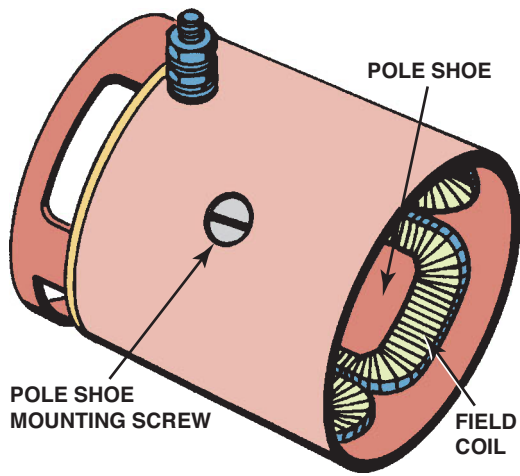

FIGURE 17-15 Pole shoes and field windings installed in the housing.
- **Field coils.** The steel housing of the starter motor contains permanent magnets or four electromagnets that are connected directly to the positive post of the battery to provide a strong magnetic field inside the starter. The four electromagnets use heavy copper or aluminum wire wrapped around a soft-iron core, which is contoured to fit against the rounded internal surface of the starter frame. The soft-iron cores are called **pole shoes**. Two of the four pole shoes are wrapped with copper wire in one direction to create a north pole magnet, and the other two pole shoes are wrapped in the opposite direction to create a south pole magnet. These magnets, when energized, create strong magnetic fields inside the starter housing and, therefore, are called **field coils**. The soft-iron cores (pole shoes) are often called **field poles**. ● SEE FIGURE 17-15.